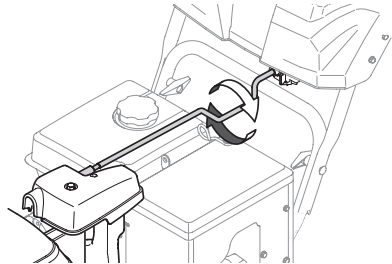

Figure 73
4. Grasp indented portion of chute control rod and manually rotate chute assembly to the right or to the left (Figure 73).